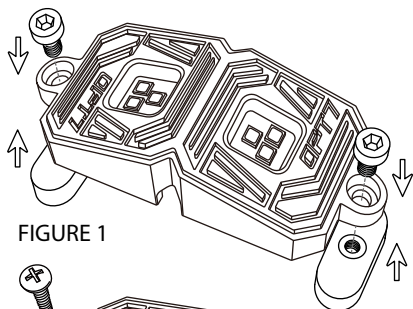

FIGURE 1
- OPTION 1 Use "Strong Magnets" for mounting as shown in Fig. 1